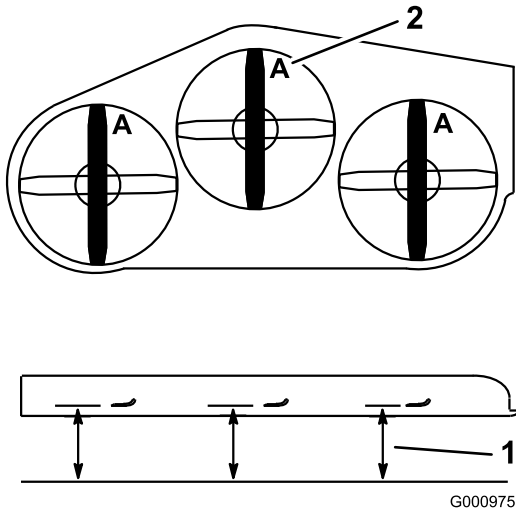

Figure 78
3. Rotate the blades until the ends face forward and backward. Measure from a level surface to the cutting edge, position **A**, of the blades (Figure 78). Note this dimension.